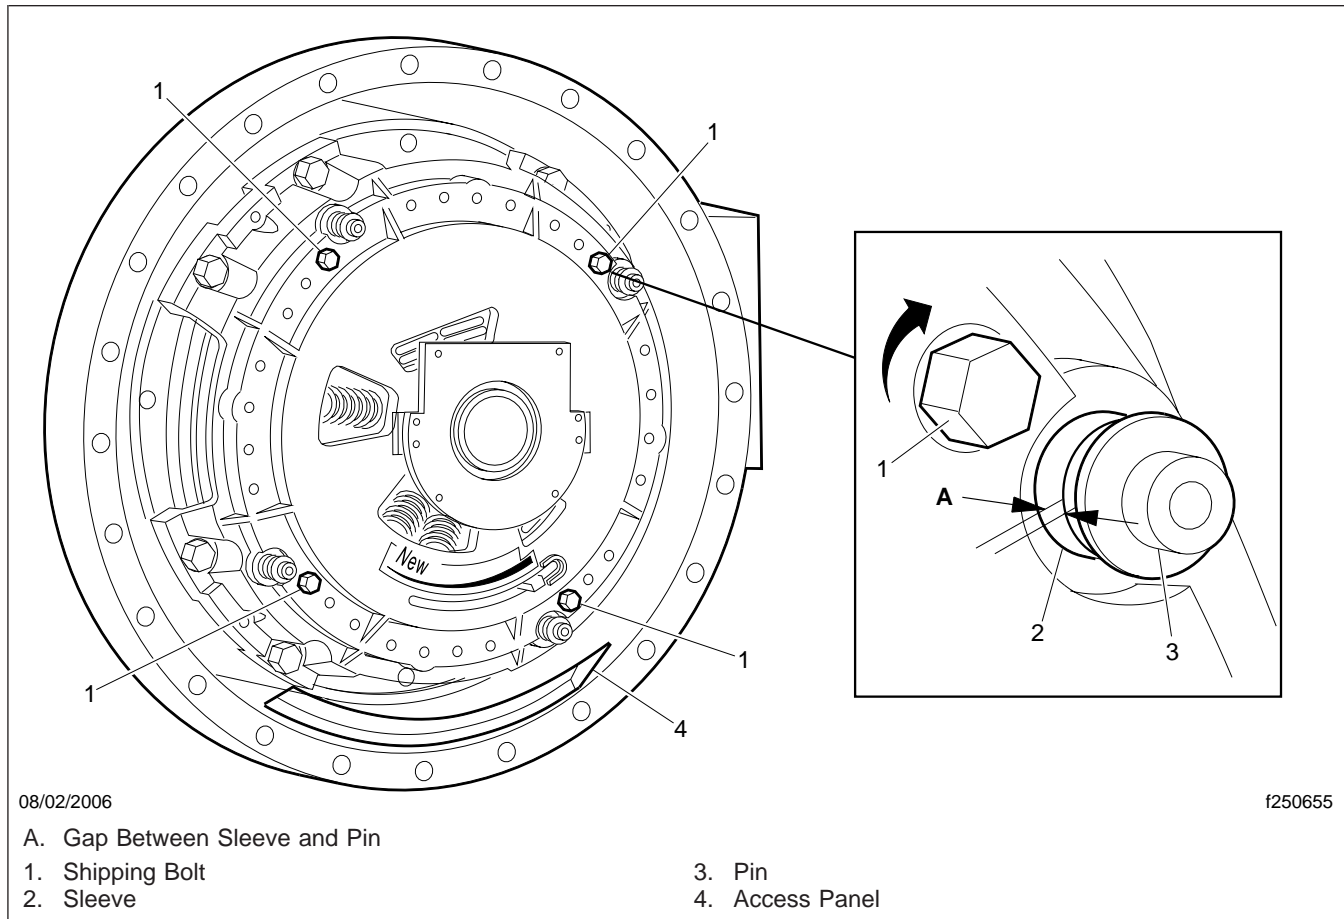

Fig. 8, Removing the Gap Between Sleeve and Pin
5. Install four shipping bolts (7/16-14 x 1-3/4 UNC) next to the sleeves and pins, as shown in **Fig. 8**. Tighten the bolts so that the gaps between the sleeves and pins are eliminated.